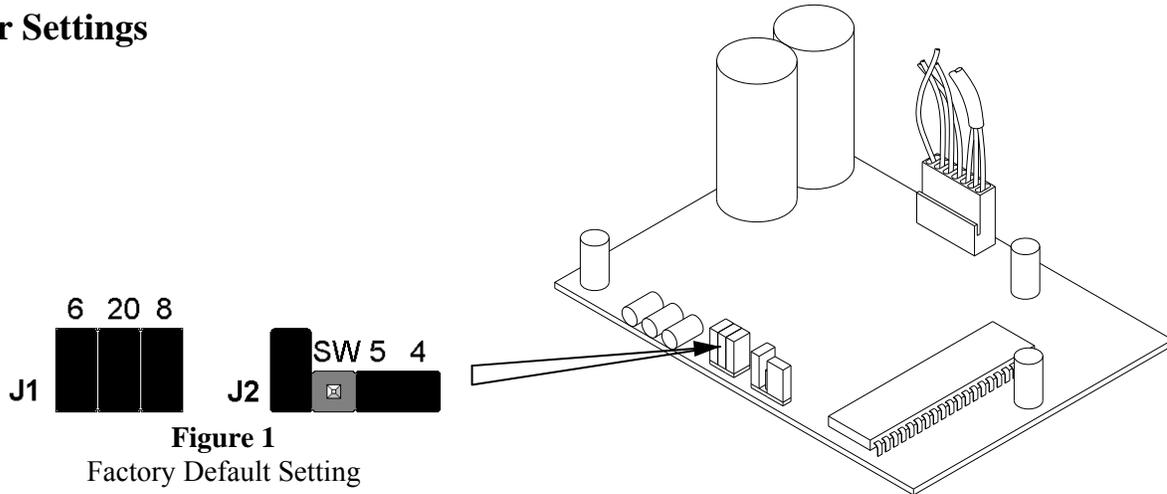

Figure 1
2. The jumper settings (see **Figure 1**) are accessible from inside the cash drawer. Remove the till and inner drawer to access the jumpers if required.